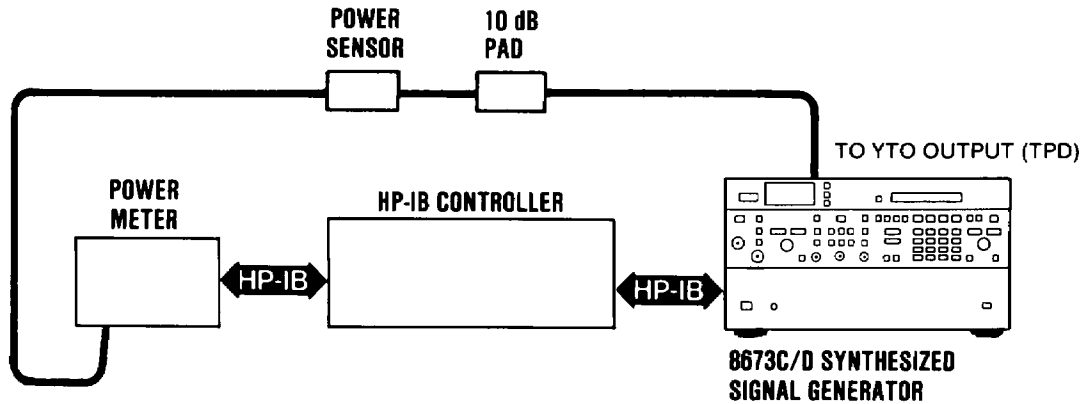

Figure 8-36. YTM Power Output Power Check Test Setup
10. To measure power at TPD, connect the equipment as shown in Figure 8-36.